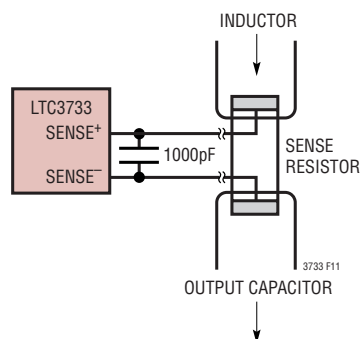

Figure 11. Kelvin Sensing  $R_{SENSE}$
3) Are the  $\text{SENSE}^-$  and  $\text{SENSE}^+$  printed circuit traces for each channel routed together with minimum PC trace spacing? The filter capacitors between  $\text{SENSE}^+$  and  $\text{SENSE}^-$  for each channel should be as close as possible to the pins of the IC. Connect the  $\text{SENSE}^-$  and  $\text{SENSE}^+$  pins to the pads of the sense resistor as illustrated in Figure 11.